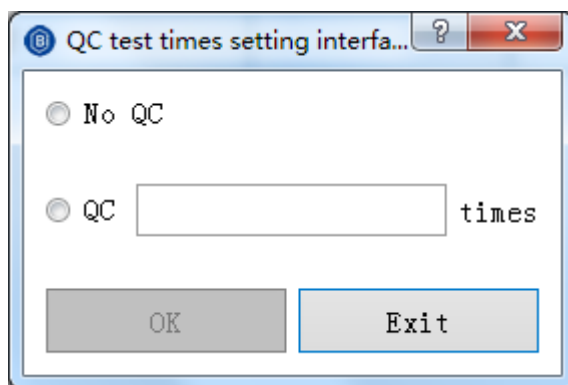

Figure 8.6.10 Set QC test times
- Select the position of this QC product and click to choose. The QC test times setting interface will pop up as shown in Figure 8.6.10.